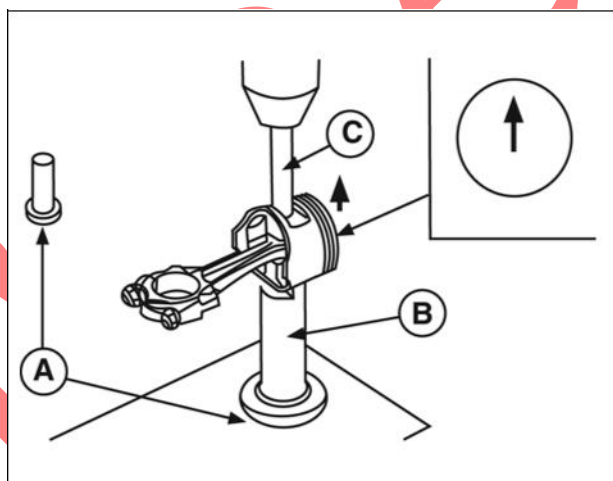

Figure 11
4. Insert piston pin stop (**A**, Figure 11) in bottom of piston support (**B**).